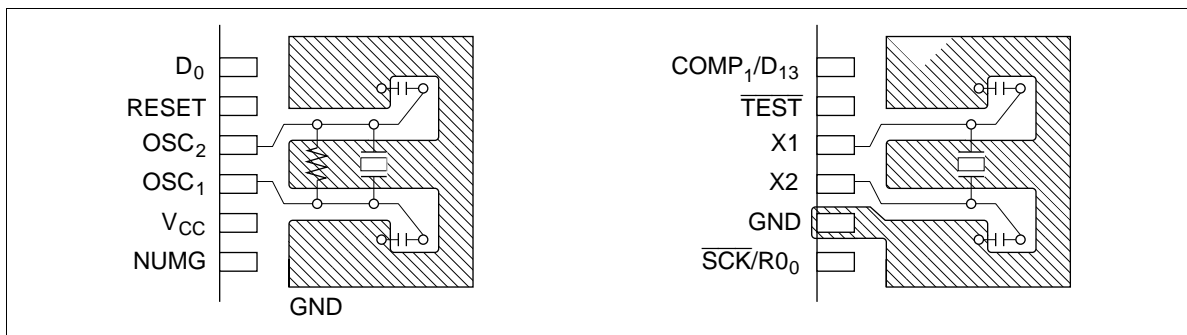

Figure 21 Layout of Crystal and Ceramic Oscillators
2. Writing among OSC₁ and OSC₂ or X1 and X2, and other elements should be as short as possible, and should not cross other wires. Refer to figure 21.